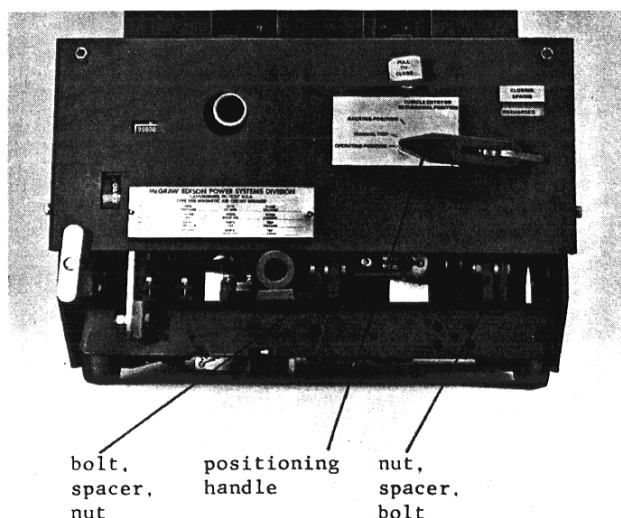

Fig 13--Front control panel
- 4-Remove the screw holding the positioning handle onto its shaft. (Fig 13)
- 16-Remove the two bolts securing the operating mechanism to the breaker frame at the front. (Fig 13)